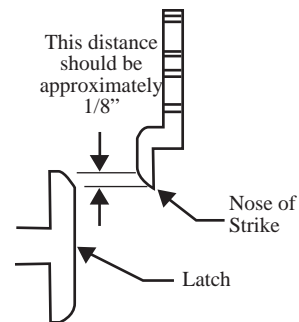

Figure 9
The strike (D2160) is mounted nose down (Figure 9), with the #4 x 3/4 screws going into the same groove as the closer (R8025) installation screws. The nose of the strike should be approximately 1/8" below the latch, as measured from the sill track (Figure 10). The strike mounting holes will locate 3/4" and 1 1/4" above this point. Drill (2) 3/32" holes at these locations. Adjust the strike up or down as needed to get a secure latch.